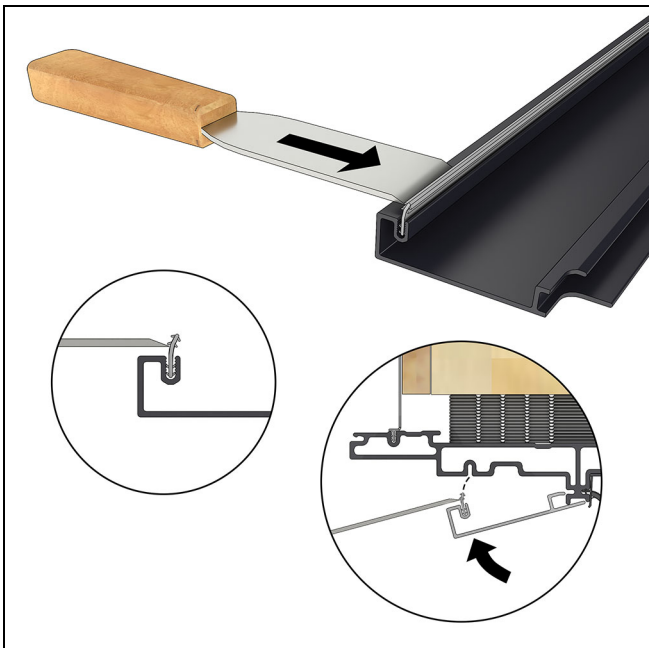

Figure 76 Use a flat bar to guide the flexible bar into the kerf.
7. Install the exterior covers. Start at the head jamb, then sill, and then jambs. Push hooked edge of the cover into the frame then rotate to engage the barbed end into the side of the frame. If necessary, seat the cover with a rubber mallet and block of wood, taking care to hit on the edge and not on the face of the cover to avoid damage. See Figure 76 through Figure 79.